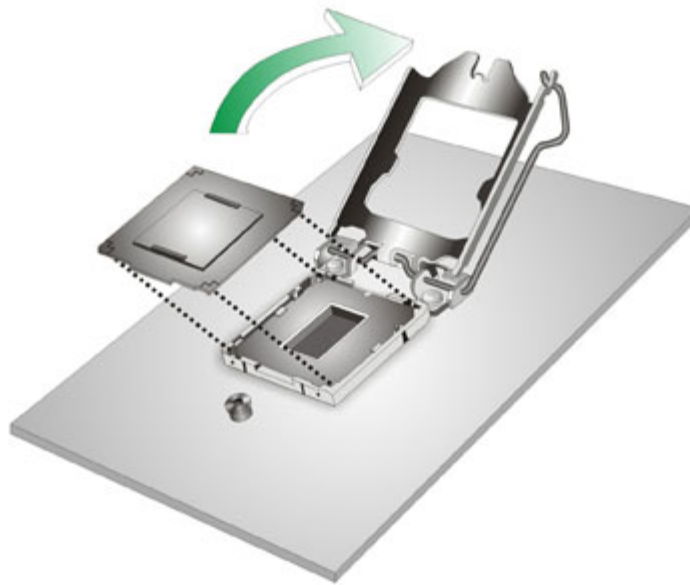

Figure 4-2: Remove Protective Cover
**Step 2:** **Open the socket and remove the protective cover.** The black protective cover can be removed by pulling up on the tab labeled "Remove". See **Figure 4-2**.